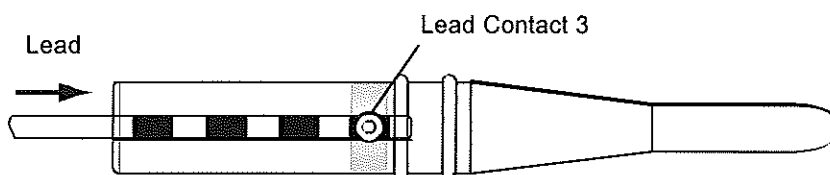

Figure 26: Insert lead into lead cap.
2. Insert the exposed end of the lead into the lead cap contained in the lead kit (Figure 26).
3. Align the number 3 lead contact with the setscrew connector block (Figure 26).